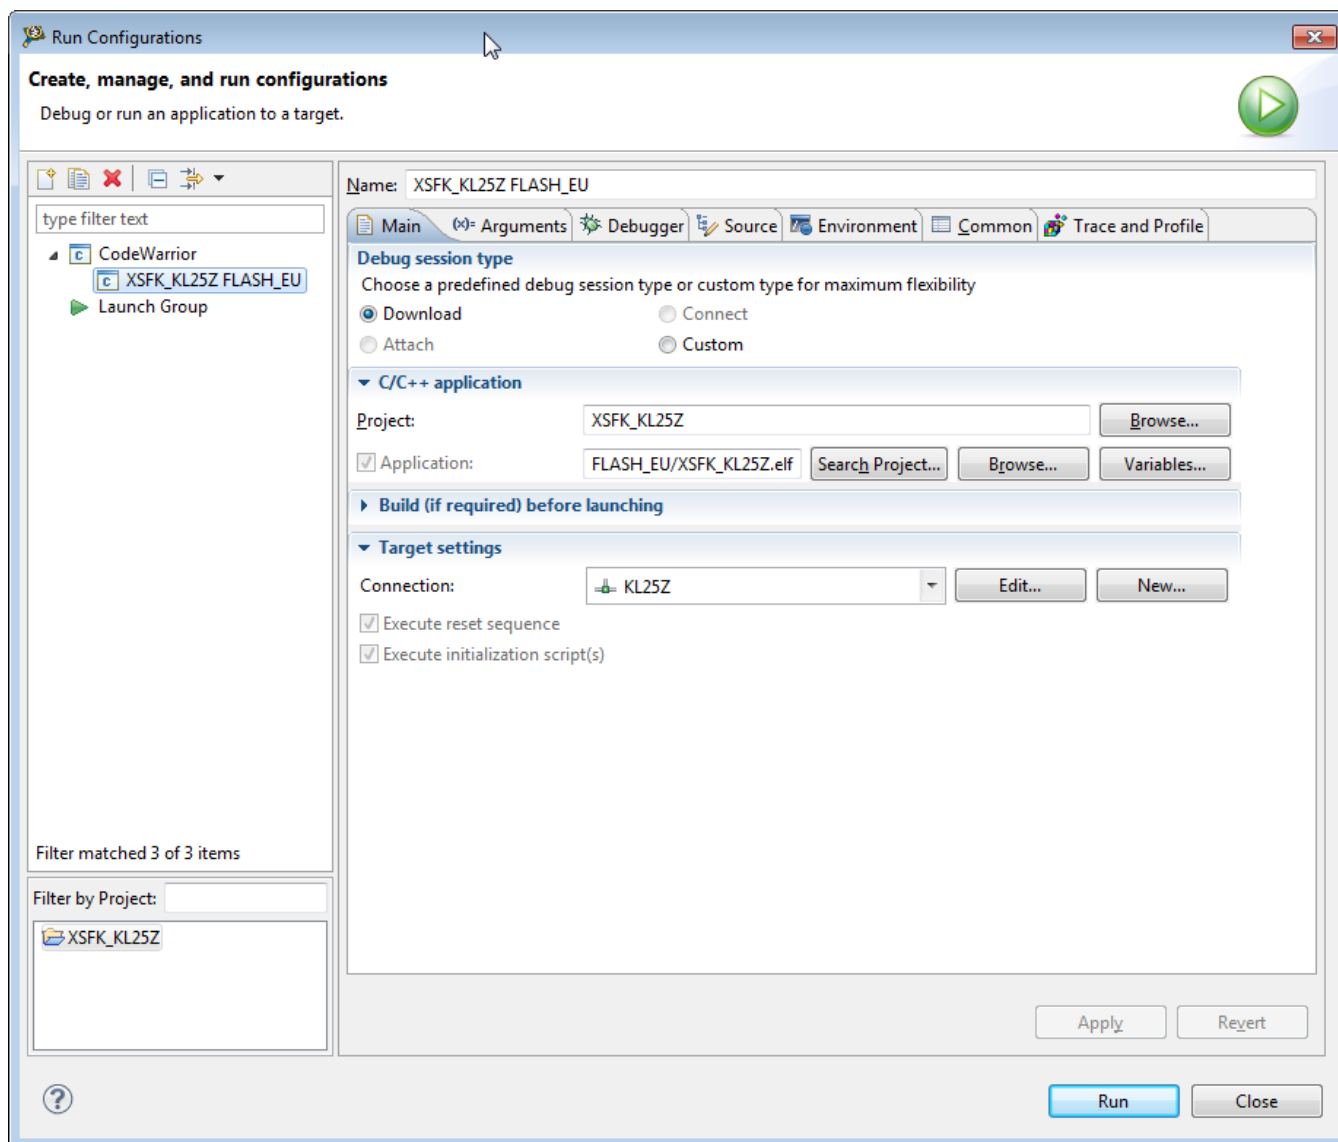

Figure 15. Run Configurations window
8. Select **Run->Run Configurations** to bring up the Run Configurations dialog, shown in Figure 15.